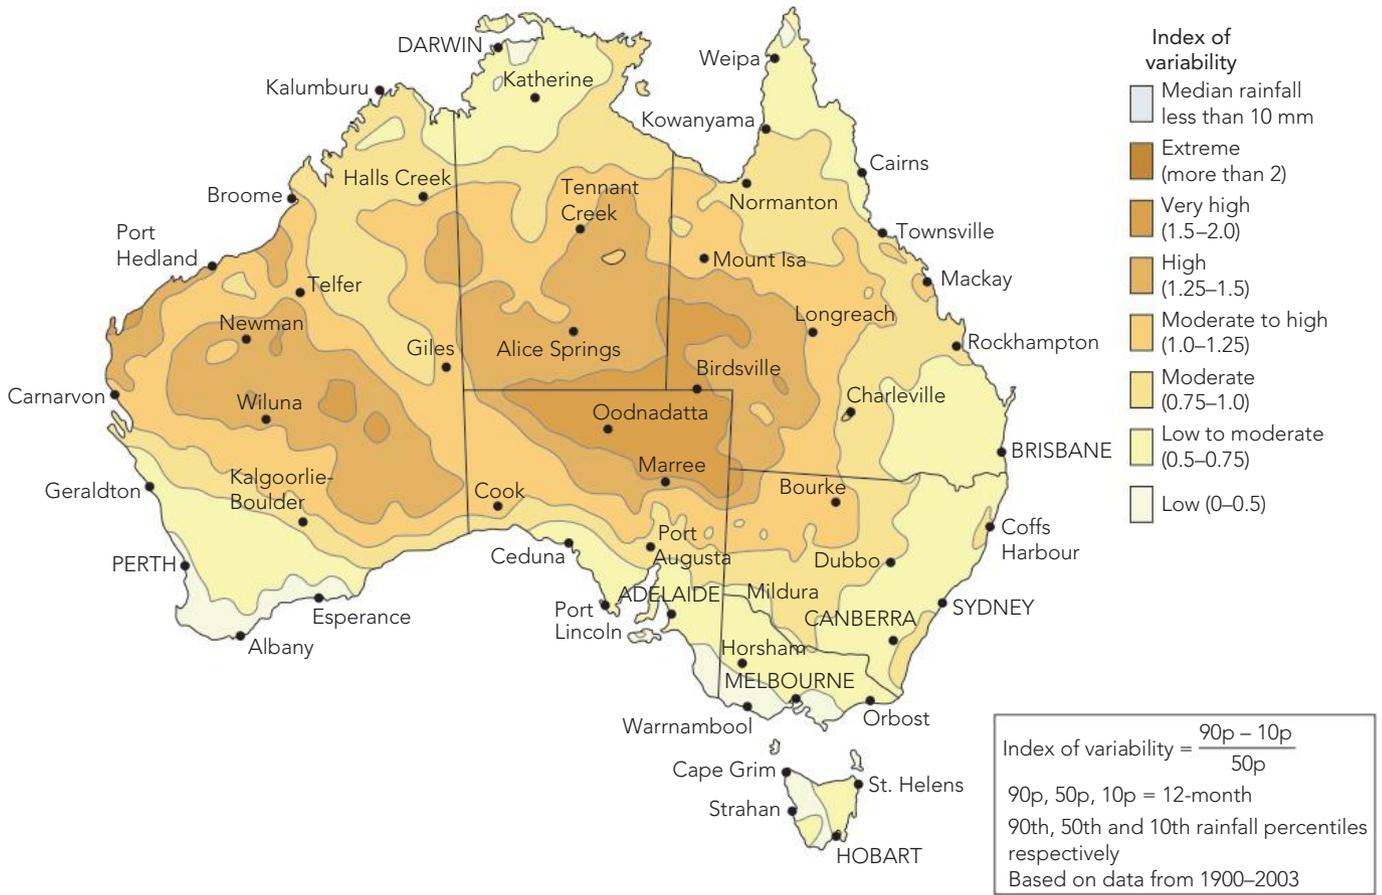

Figure 32.9 Rainfall variability across Australia
- 12** Look at Figure 32.9 (page 451) and determine the areas of Australia that have the most reliable rainfall.
- 13** Look at Figure 32.9 (page 451) and determine the areas of Australia with the least reliable rainfall.
Rainfall variability determines the success of growing seasons and, consequently, how quickly animals can gain body weight. Areas with low rainfall variability, which correspond with much of the wheat growing areas, allow more intensive forms of cropping and higher stocking rates. Figure 32.9 indicates rainfall variability across Australia. Because rainfall is not uniform across the country, much of Australia is either arid or semi-arid and classified climatically as desert (Fig. 32.1). Variability makes farming an uncertain business, often loss making and very stressful.